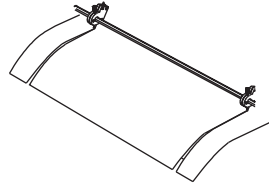

Figure 3
3. Once you activate the slitter then you can begin lamination. (Figure 3)